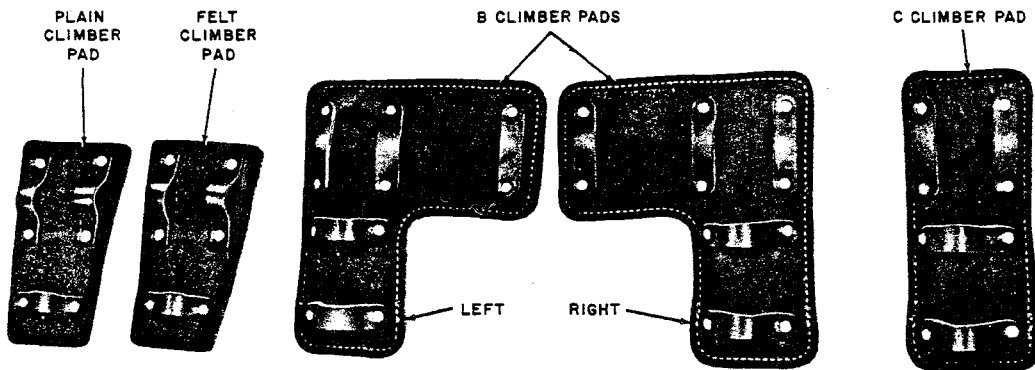

Fig. 5—Pads
3.10 Pads are used with climbers to protect the shins and calf of the leg against irritation by rubbing when the climbers are strapped to the legs. Plain leather, felt lined, and cushioned pads are available as shown in Fig. 5. Cushion pads are coded B climber pads (angle) and C climber pads (straight). The plain and felt lined pads are generally used when wearing boots that cover the calf of the leg. The wrap-around design of the B climber pads furnishes additional protection at the shins. Occasionally the top edge of a new pad may initially dig into the leg in use. This can be overcome by dulling the top edge by rubbing with a rounded metal tool.